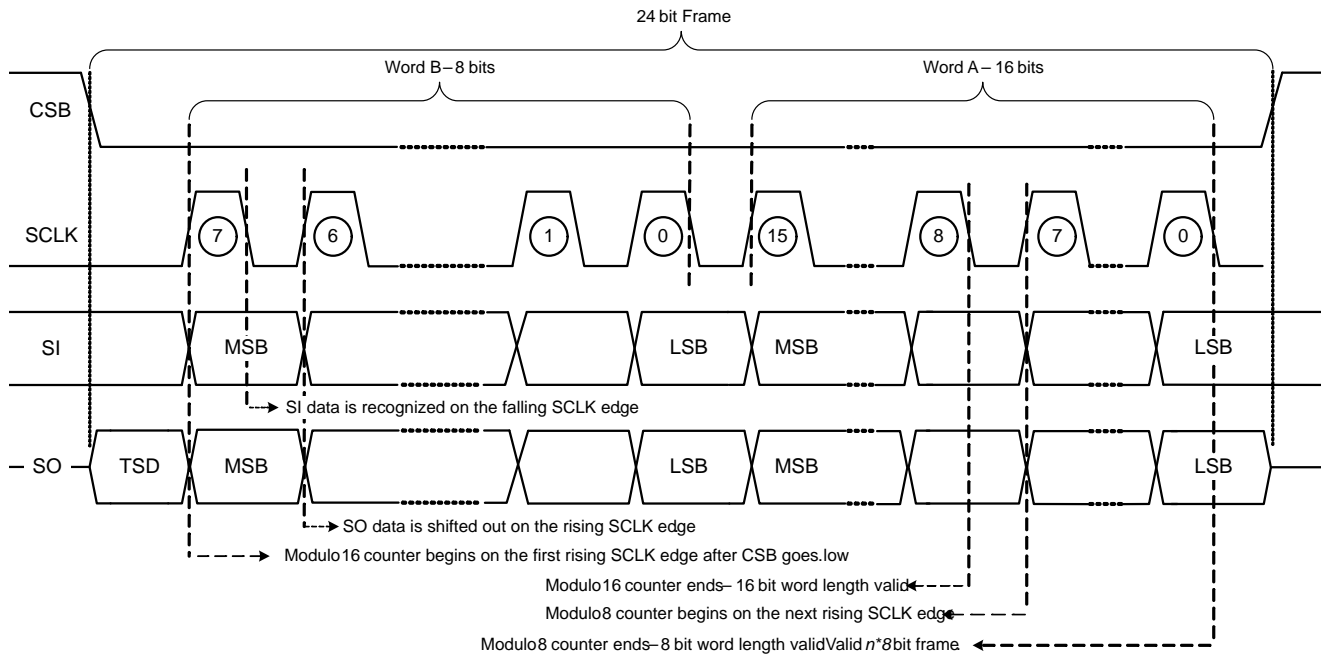

Figure 16. SPI Data Recognition and Frame Detection
Daisy chain communications between multiple of 8-bit SPI compatible IC's is possible by connection of the serial output pin (SO) to the input of the sequential IC (SI). The clock phase and clock polarity respect to the data must be the same for all the devices on the chain. Figure 15 illustrates the hardware configuration of NCV7718B daisy chained with a $n \times 8$ bit (ie $n = 2$; 16 bit) SPI device. The progression of data from the MCU through the sequential devices is also shown. Strict adherence to the frame format illustrated in Figure 16 is required for the proper serial daisy chain operations.